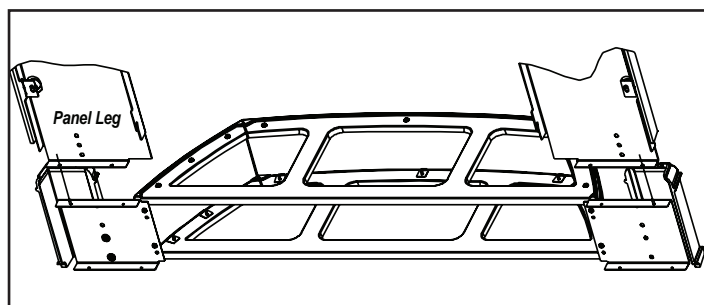

Figure 20.5
8. Place the assembled zero clearance trim support under the insert. **Figure 20.5.**